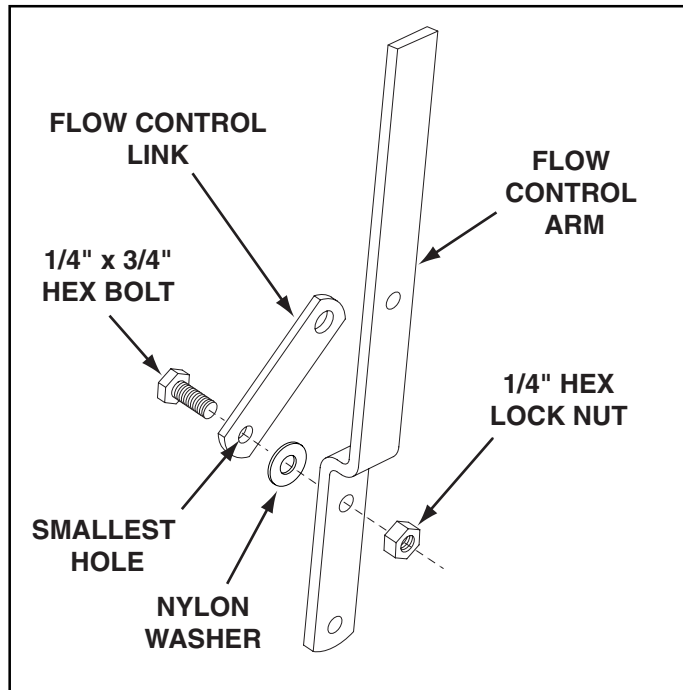

FIGURE 6
14. Assemble the flow control link (end with small hole) to the flow control arm using a 1/4" x 3/4" hex bolt, a nylon washer and a 1/4" hex lock nut as shown in figure 6. **Tighten carefully.** The flow control link should not be loose but should pivot with no more than slight resistance.